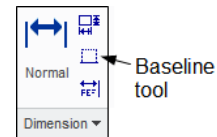

Figure 3-1 The *Dimension* group
1. Choose the **Baseline** tool from the **Dimension** group, refer to Figure 3-1.